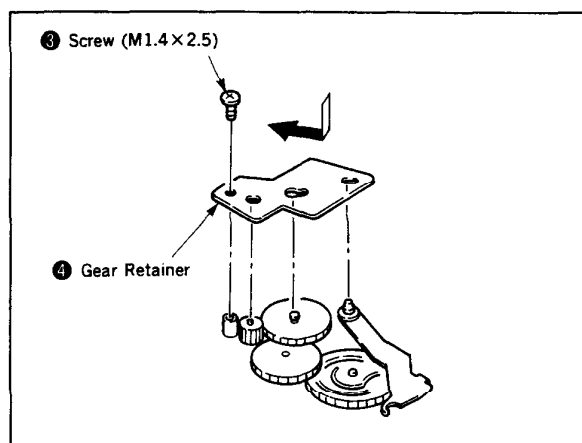

Fig. 36
- 9) Put the gear retainer ⑤ in place, slide it in an arrow direction and fix it with the screw ④. (Fig. 36)